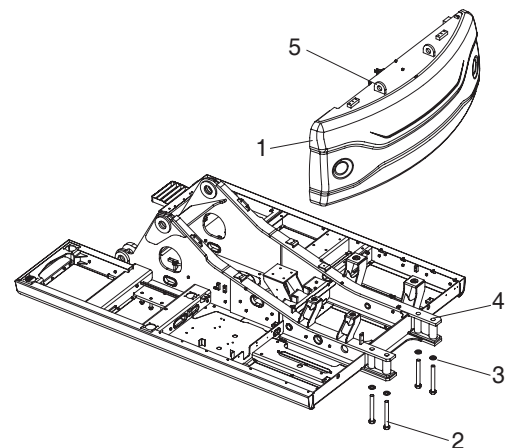

Figure 4
12. Using a suitable lifting device capable of handling a heavy load, partially support counterweight (1, Figure 4) before loosening four bolts (2). Stop lifting with assist crane as soon as lifting slings are taut.
13. Remove four bolts (2, Figure 4) and washers (3) from counterweight (1).
14. When bolts (2, Figure 4) and washers (3) have been removed, lift counterweight (1) a very short distance above support frame (4) and stop. Check slings and make sure counterweight is being supported evenly.